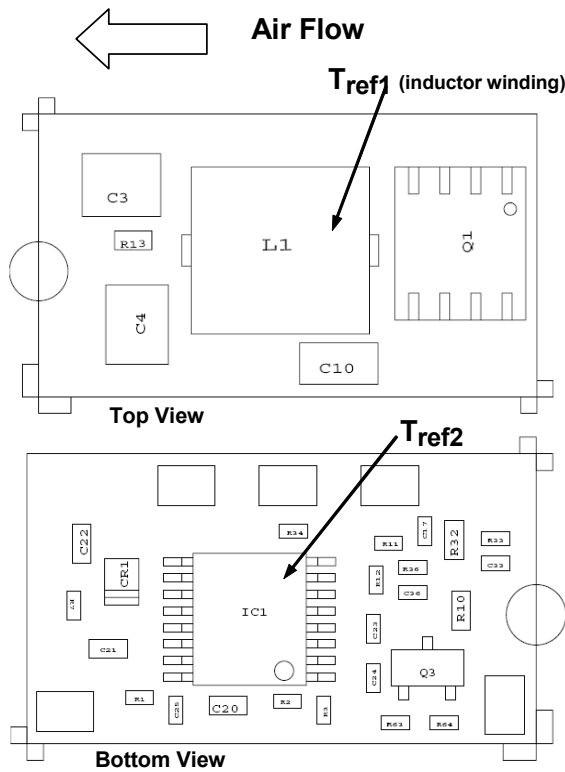
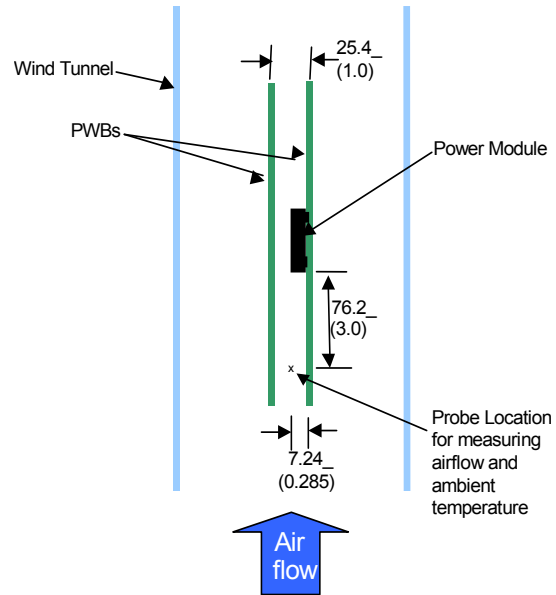

Figure 31.  $T_{ref}$  Temperature measurement location.
Figure 32. Thermal Test Set-up.
To provide over temperature protection in a fault condition, the unit relies upon the thermal protection feature of the controller IC. The unit will shutdown if the thermal reference point  $T_{ref2}$ , (see Figure 31) exceeds 140°C (typical), but the thermal shutdown is not intended as a guarantee that the unit will survive temperatures beyond its rating. The module will automatically restarts after it cools down.
Considerations include ambient temperature, airflow, module power dissipation, and the need for increased reliability. A reduction in the operating temperature of the module will result in an increase in reliability. The thermal data presented here is based on physical measurements taken in a wind tunnel. The test set-up is shown in Figure 32. Note that the airflow is parallel to the long axis of the module as shown in figure 31. The derating data applies to airflow in either direction of the module's long axis.
The thermal reference points,  $T_{ref1}$  and  $T_{ref2}$  used in the specifications of thermal derating curves are shown in Figure 31. For reliable operation these temperatures should not exceed 125°C.